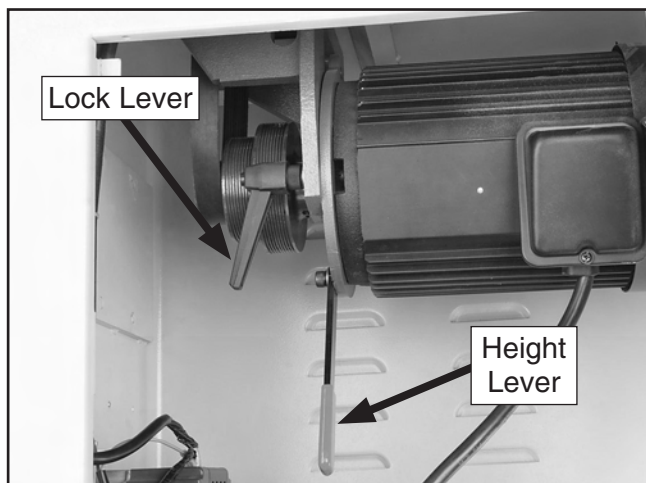

Figure 24. Motor lock and height levers.
3. Open the cabinet door, loosen the lock lever, pull up on the height lever to raise the motor to the highest position, then re-tighten the lock lever to secure the motor in place (**Figure 24**).